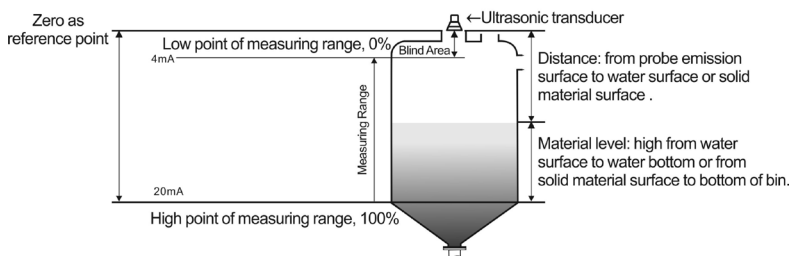

Fig. 1.1 Diagram of Distance Measurement
1. Under distance measuring mode, setting of reference zero point is meaningless and the positions of maximum of measuring range and minimum of measuring range are as shown in Fig. 1.1.